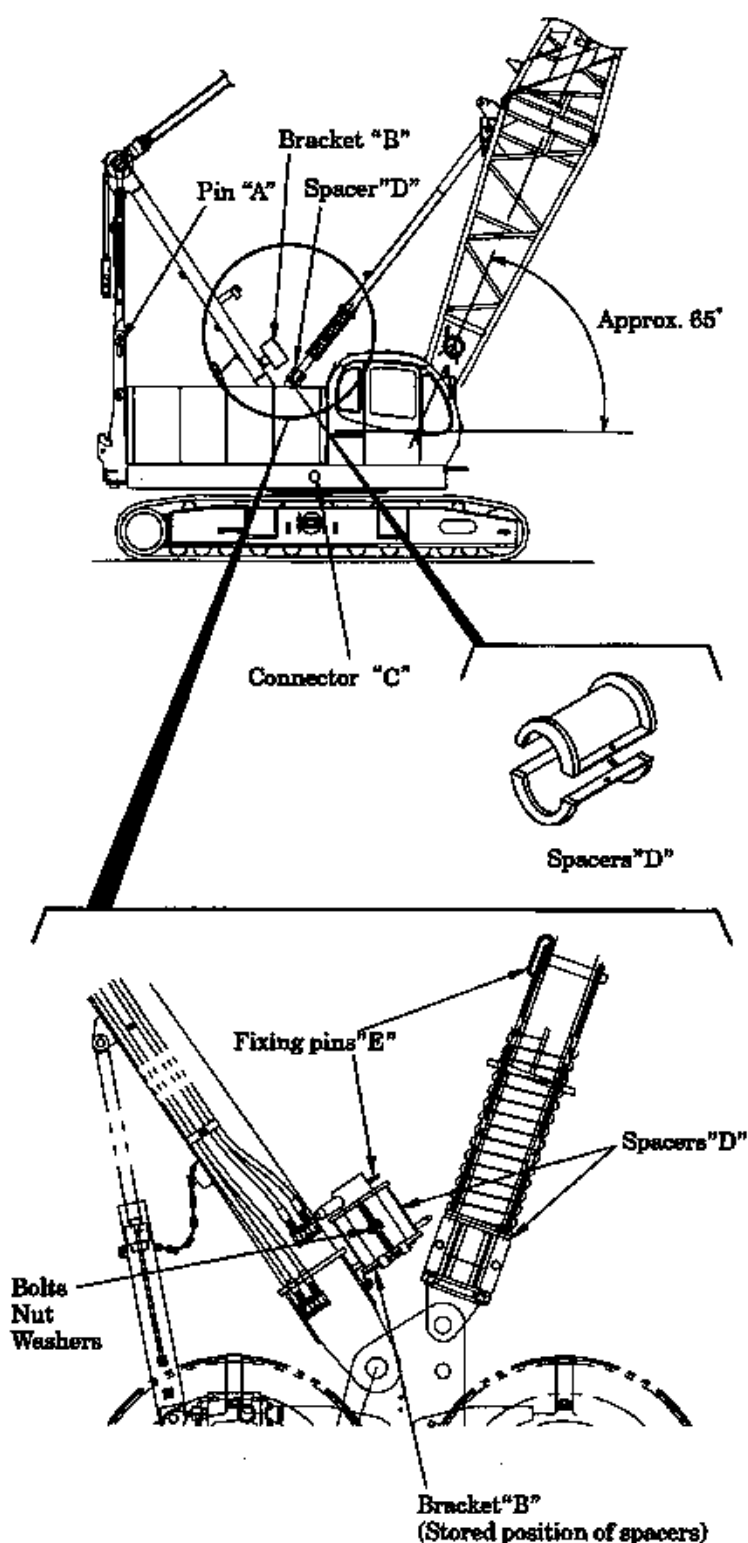
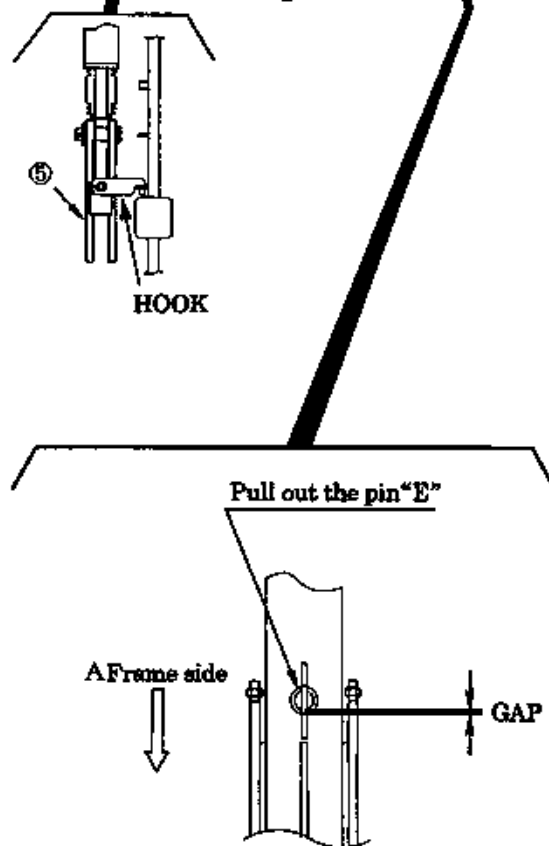

Fig 5-4
Fig 5-18
- (1) With the posture shown in (Fig. 5-4), operate the gantry raising cylinder with a switch in the operator's cab (refer to the crane operator's manual), and remove the tension member pin "A".
- (1) Further raise the boom from the boom height shown in (Fig. 5-4), and insert the backstop fixing pin "E" to connect the inner and outer (Fig.5-5).
The pins are stored in bracket "B". (See Fig. 5-4)
- (1) With the posture shown in (Fig. 5-5), remove the gantry cylinder pin "F" (before removing the cylinder pin "F", check that the cylinder is connected to the gantry compression member with a chain.). (See Fig. 5-4)
- (2) Remove the pins "E" with flags inserted into the backstop. The pins can be easily removed by raising the boom a little (Fig. 5-18). Store the pins (with flags) in the bracket "B" (See Fig. 5-4).
Raising the boom without removing the pin "E" (Fig. 5-18) will damage the backstop or the boom base, and may cause serious injury or loss of life.
- (3) Remove the backstop spacer "D" (Fig. 5-4). Lowering the boom with the backstop spacer attached will lead to the interference with the winch guard. Store the backstop spacers in the bracket "B" (See Fig. 5-4).